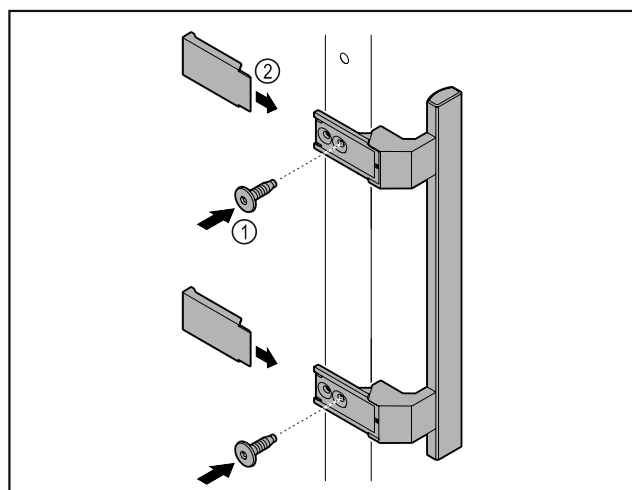

Fig. 5
- ▶ Attach handle from accessory kit to the door using supplied screws Fig. 5 (1).
- ▶ Put on cover Fig. 5 (2).